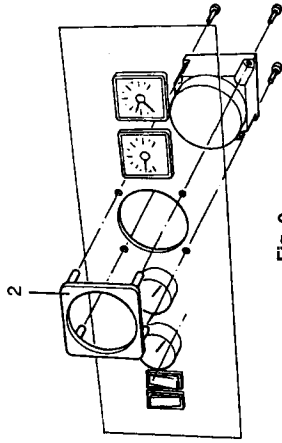

Fig. 2
4. Insert the clock into the aperture from the back of the control panel. Push the mounting bezel (2) through the front panel and secure to the clock using the four screws provided. (fig 2)